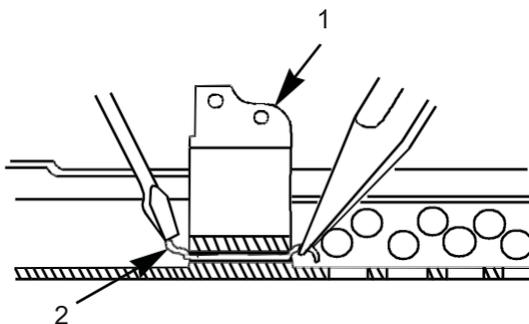

Figure 12. Removal of Gas Cylinder Retaining Spring.
1. On lower inside housing of receiver assembly (Figure 12, Item 1), depress tang of gas cylinder retaining spring (Figure 12, Item 2) using a flat-tip screwdriver. At the same time, pull on hooked end of gas cylinder retaining spring (Figure 12, Item 2) with needle-nose pliers and remove. Discard gas cylinder retaining spring (Figure 12, Item 2).